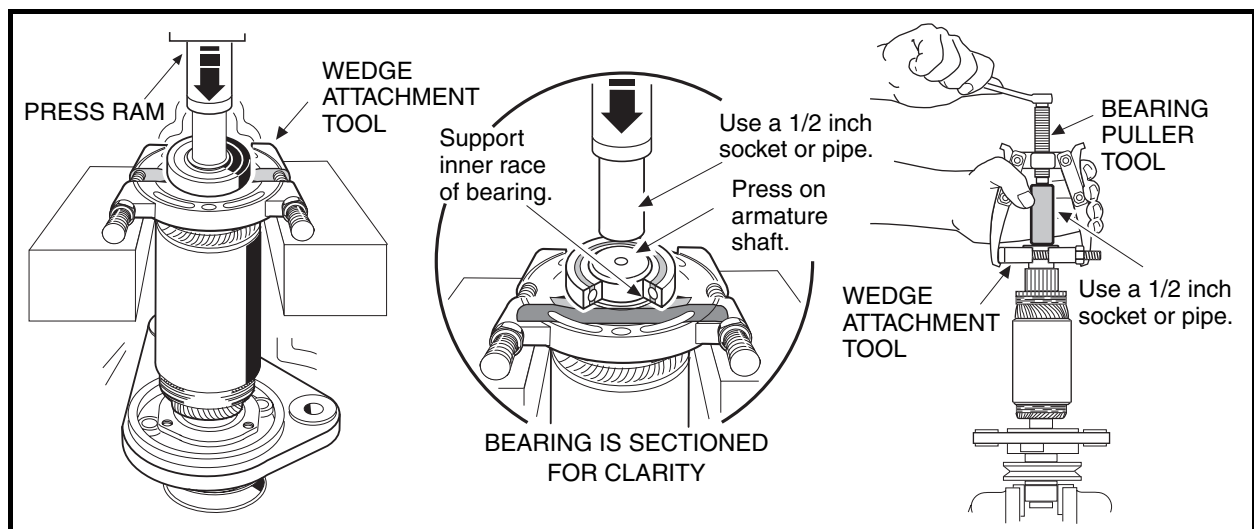

Figure 14-9 Bearing Removal
1. Place the wedge attachment tool (CCI P/N 1012812) between the bearing and the armature. Make sure the wedge attachment tool is supporting the inner race of the bearing. If a press is not available, secure a bearing puller (CCI P/N 1012811) to the wedge attachment tool and pull the bearing off of the end of the armature shaft. Support the armature so that it will not drop when the bearing is removed (**Figure 14-9, Page 14-5**).